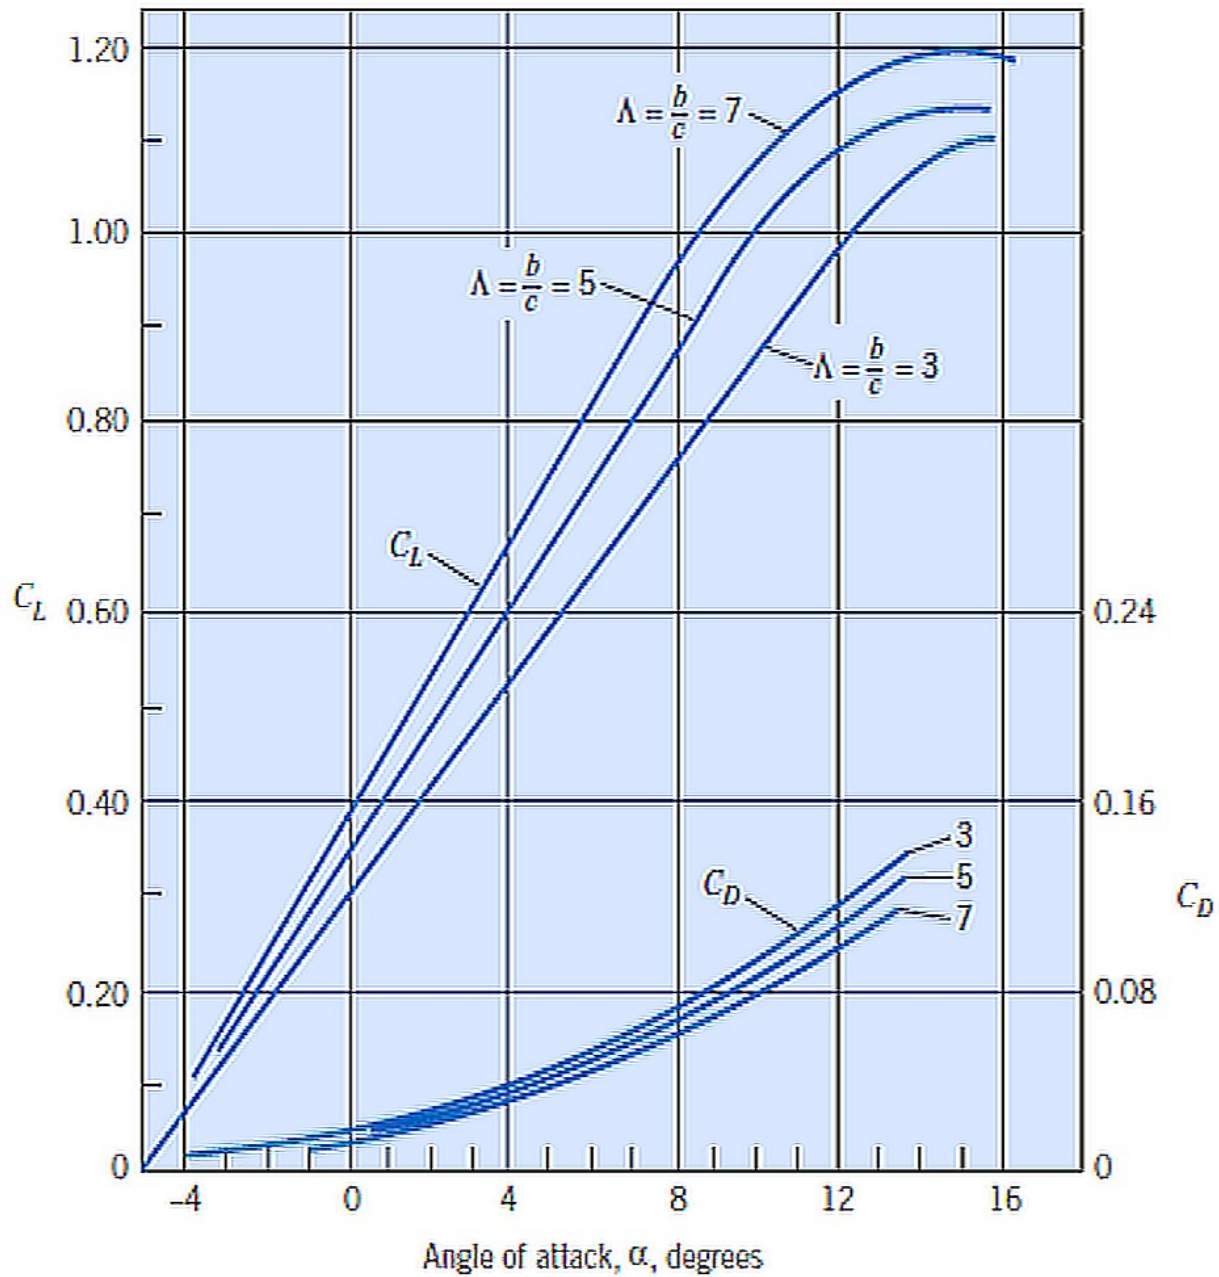

Figure 1 Drag and Lift coefficients for rear vanes of different aspect ratios
- 1) What factors affect the Comfort and Stability in vehicles from the perspective of aerodynamics? (2)
- B) Based on the studies of Klemperer, illustrate how side winds influence the stability of low-drag cars. (3)
- C) Advertisement signs are commonly carried by taxicabs for additional income, but they also increase the fuel cost. Consider a sign that consists of a 0.4-m-high, 0.9-m-wide, and 0.9-m-long rectangular block mounted on top of a taxicab such that the sign has a frontal area of 0.4 m by 0.9 m from all four sides. Determine the increase in the annual fuel cost of this taxicab due to this sign. Assume the taxicab is driven 60,000 km a year at an average speed of 50 km/h and the overall efficiency of the engine is 28 percent. Take the density, unit price, and heating value of gasoline to be 0.72 kg/L, 110 Rs/L, and 42,000 kJ/kg, respectively, and the density of air to be 1.25 kg/m³. (5)
- 2) Explain the effect of interference on the drag behaviour of two slender bodies placed (a) one behind the other with their respective axes coinciding (b) one above the other with their respective axes parallel. (4)
- B) The rear vane installed on the racing car is at an angle of attack of 8° and has characteristics as given in Figure 1. Estimate the downward thrust (negative lift) and drag force of the vane that is 1.75 m long and has a chord length of 250 mm. Assume the racing car travels at a speed of 300 km/h on a track where normal atmospheric pressure and a temperature of 30°C prevail.